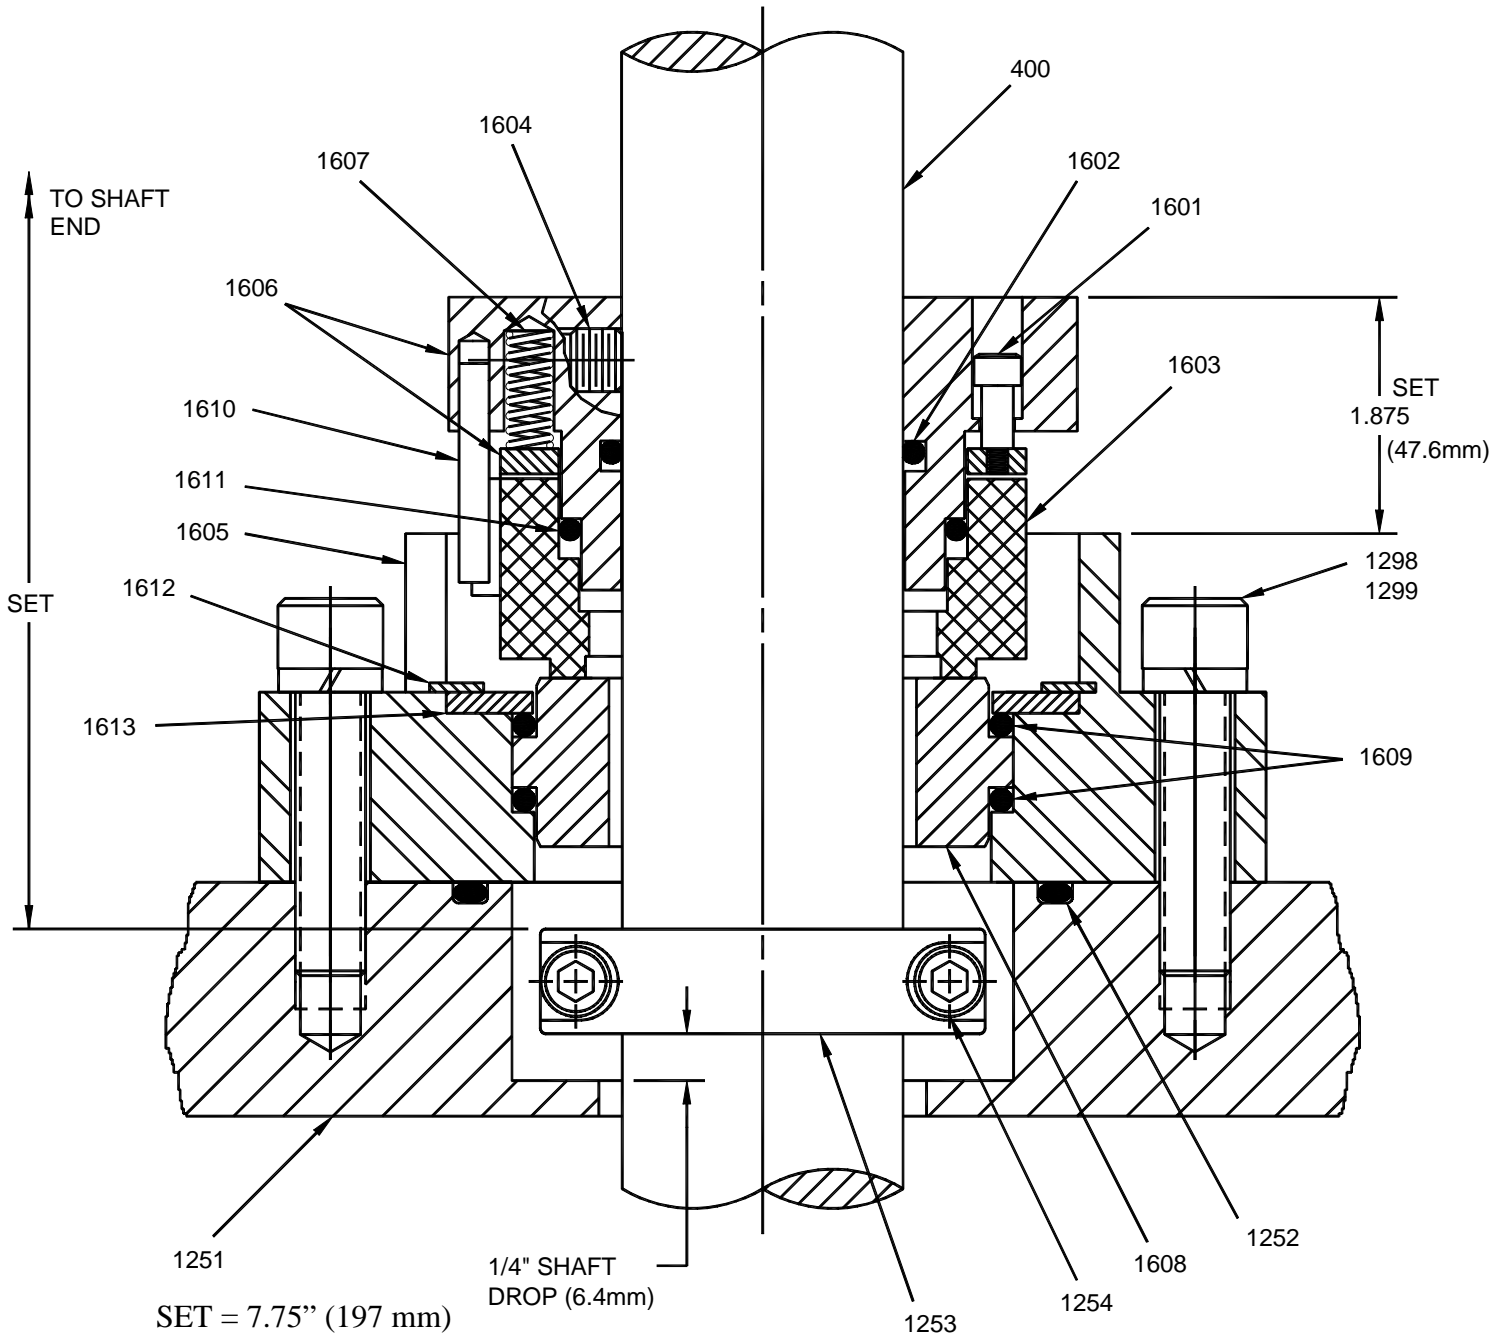

Figure 7: Model 40DTNC Seal, Flowserve VRA
7. Slide drive collar rotary seal ring [1603] assembly down shaft, and set seal spring gap dimension at 1.875" (47.6 mm). Refer to *Figure 7, page 19*. Evenly tighten all cup point setscrews [1604].